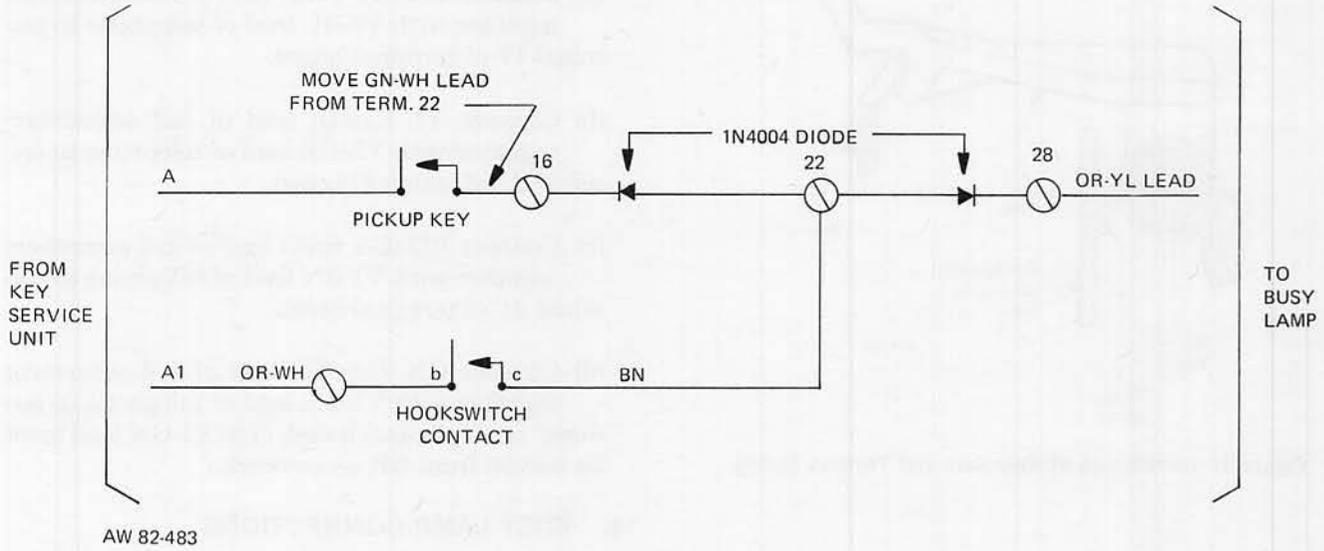

Figure 4: Busy Lamp Connections For 10-Button Telephones with Feature Codes 42 and 46
**11.01** Busy lamp connections may vary depending on the type of key system being used. Modifications for the 10-button desk telephones with feature codes 42 and 46 should be as follows: (Refer to Figure 4.)
- (b) Connect one 1N4004 diode between terminals 22 and 16 on the terminal board, and connect another 1N4004 diode between terminals 22 and 28 on the terminal board as shown in Figure 4.